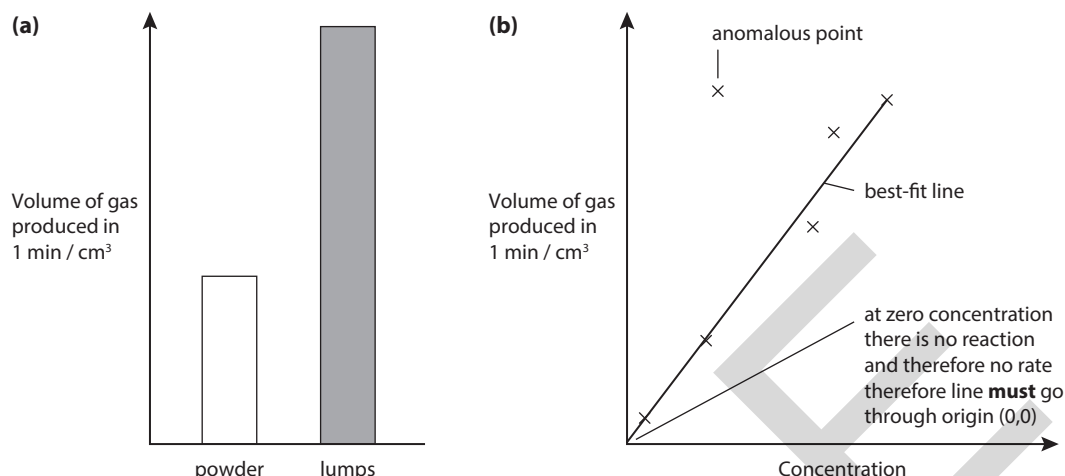

Figure 0.9
- 1 Bar charts (see Figure 0.9(a)) are used to present categorical variables while line graphs (see Figure 0.9(b)) are used for continuous variables.
As lumps or powder are categorical variables you would express the results as a bar chart (see Figure 0.9(a)).
Your results would be presented as a line graph (see Figure 0.9(b)).
- 3 After plotting the individual points on a line graph, you are often asked to draw a best-fit line (see Figure 0.9(b)). If the line is obviously a curve then do not draw a 'point-to-point' line. The curve must be a smooth curve through the points.